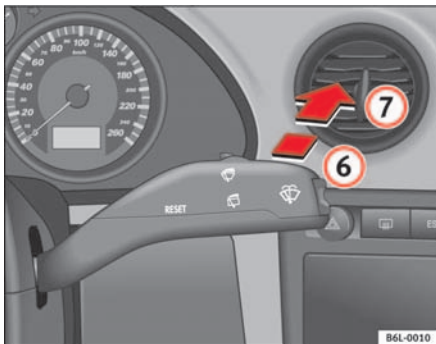

Fig. 67 Window wash and wipe lever: Rear window wiper
- Press the lever forwards to position **6** ⇒ fig. 67. The wiper will wipe the window approximately every 6 seconds.
- Press the lever fully forwards to position **7** ⇒ fig. 67. The rear wiper and washer operate at the same time. The windscreen wash system will function as long as you hold the lever in this position.